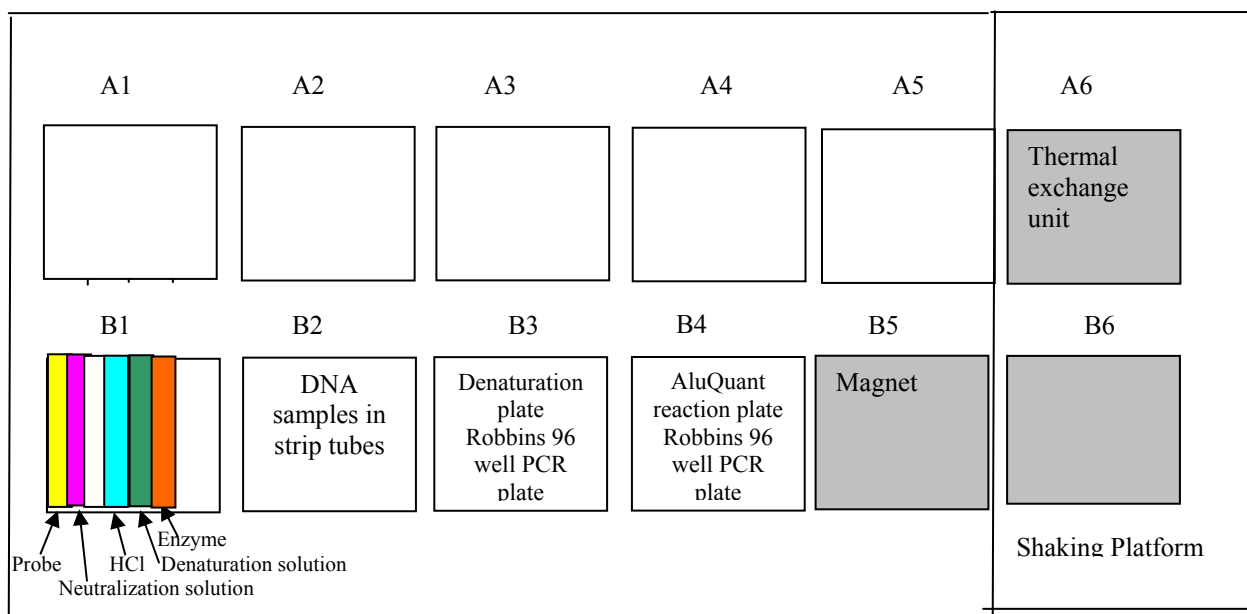

Figure 4. Deck layout for AluQuant[®].
4.5.5 Place a clean Robbins 96 well PCR plate into positions B2 and B3 on the BioMek[®] 2000 Automation Workstation as is indicated in the diagram below (Figure 4).
- 4.5.10 Using a multichannel pipettor, transfer 10 µL of the denatured DNA samples in the Robbins PCR plate in position B3 into the same column positions in the new Robbins 96 well plate located in position B4 (refer to Figure 4). Change tips after each column is transferred.